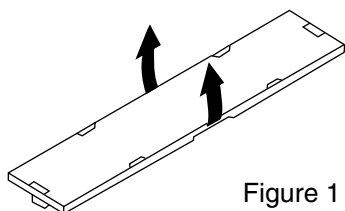

Figure 1
1. Raise the center of the label cover panel to remove it. (Figure 1)